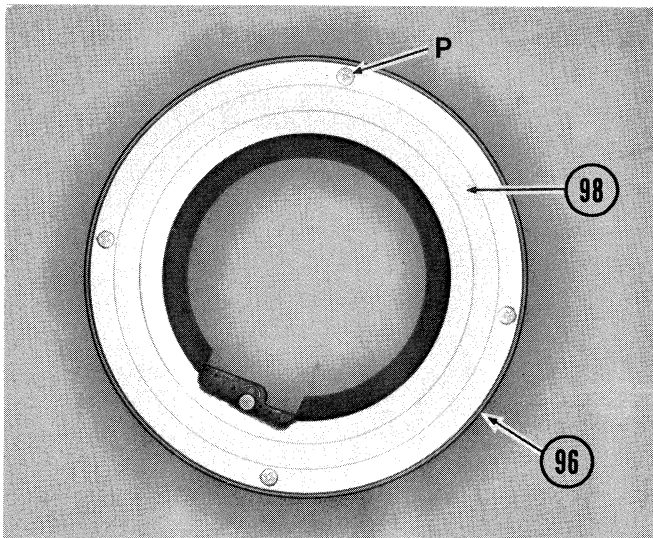

Fig. 48
- 5.5.1.5 Remove four screws (P) and remove Minolta Mount (98) from Mount Frame (96). (Fig. 48)